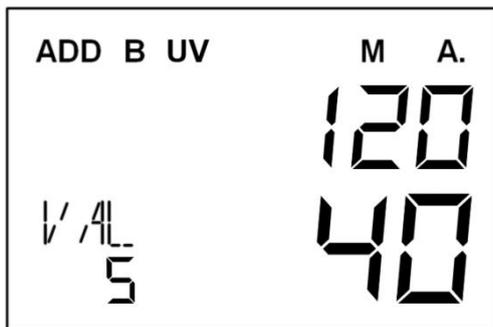

Figure 47
4) When the count of \$5 is completed and the banknotes in the stacker are removed, the machine adds up the details of the 2 counts (including the total number and total amount) as shown in Figure 47 below.